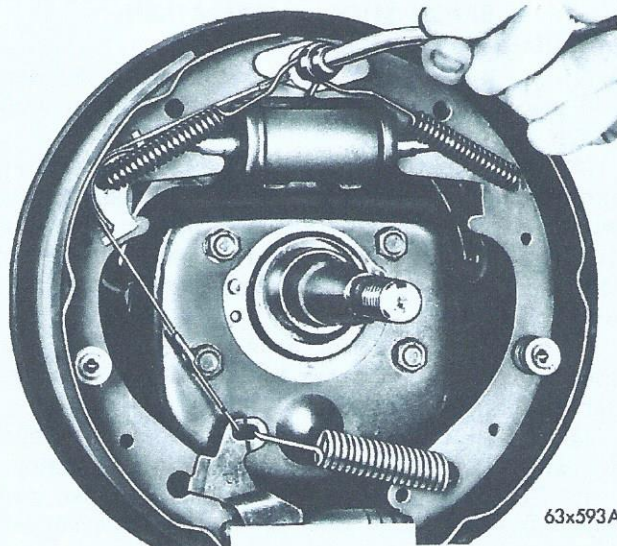

Fig. 4—Removing or Installing the Brake Shoe Return Springs (front)
(1) Using Tool C-3785 remove the brake shoe return springs, as shown in Figure 4.